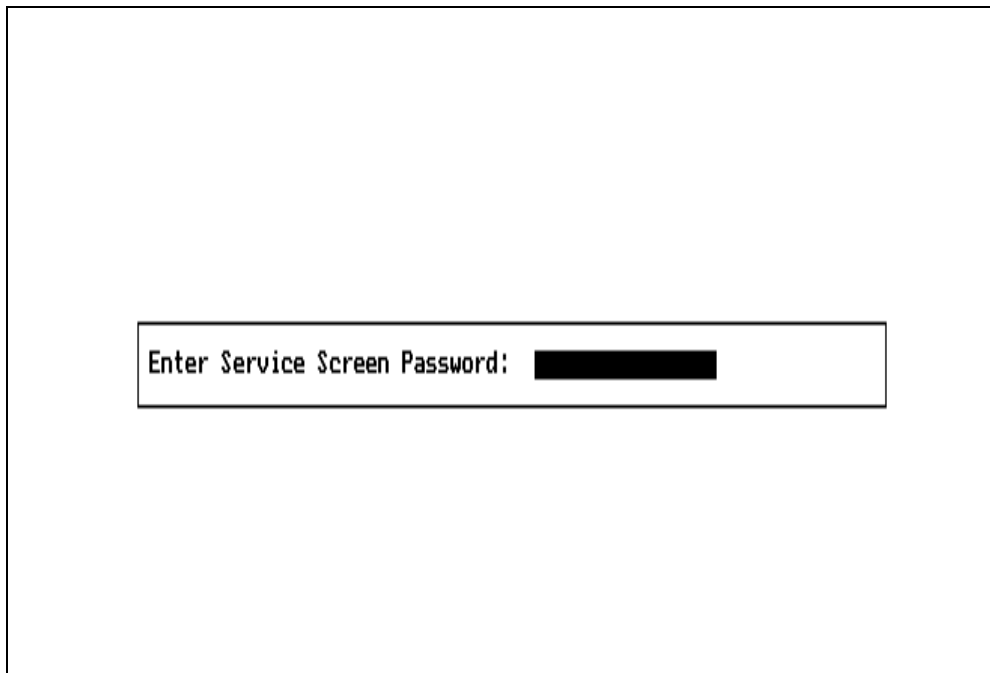

Figure 15A: PASSWORD SCREEN
- 4.A Since the Service Functions screen is intended for NAD service personnel only, a prompt for the service password will appear, as shown in Figure 15A.